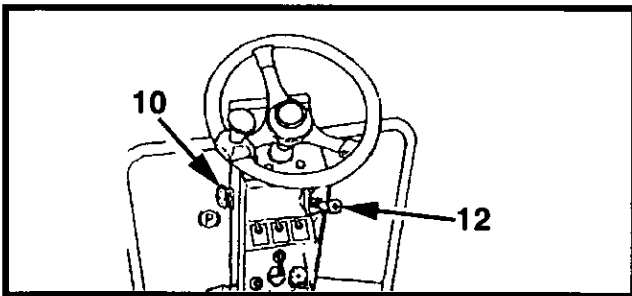

Figure 4-6 Engine Speed Control and Parking Brake Switch
5. Position engine speed control lever to Low **IDLE** position (12, Figure 4-6).
6. Apply the Emergency /Parking Brake (P), by pressing in the **RED** Button Switch (10, Figure 4-6).